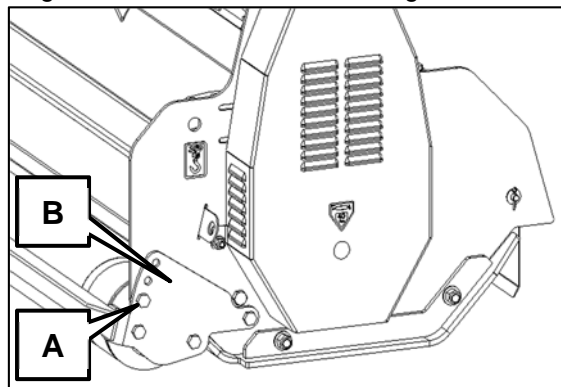

Figure 6.1
The cut height can be adjusted by raising or lowering the flail head roller to suit the material to be cut and the required degree of chopping, see Figure 6.1. Support the skids at both ends by blocks. The size of the blocks should be sufficient to give enough free movement of the roller bracket (B) to achieve the desired cut height. Ensure that the machine will not slide off the blocks. Support the roller appropriately - it is heavy! Undo setscrew (A) on the roller bracket at both ends of the machine. Raise or lower the roller to the desired height by aligning one of the roller bracket setscrew holes with the hole in the cowl side plate. Make sure that the same hole is selected at both ends. Failure to do this will produce an uneven cut. With the roller still supported, re-fit and re-tighten the setscrews on both roller brackets. Remove the roller support and the blocks to lower the machine to its new cut height.